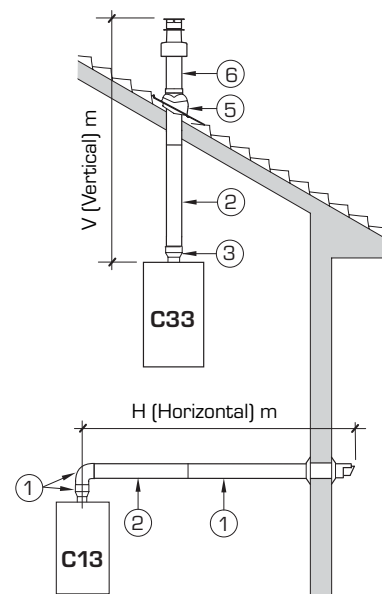

Fig. 6
2.5 INSTALLATION COAXIAL DUCT ø 60/100 - ø 80/125 (fig. 6)
The diagrams of fig. 6 illustrate some examples of different types of fluing options allowed and the maximum lengths that can be reached.